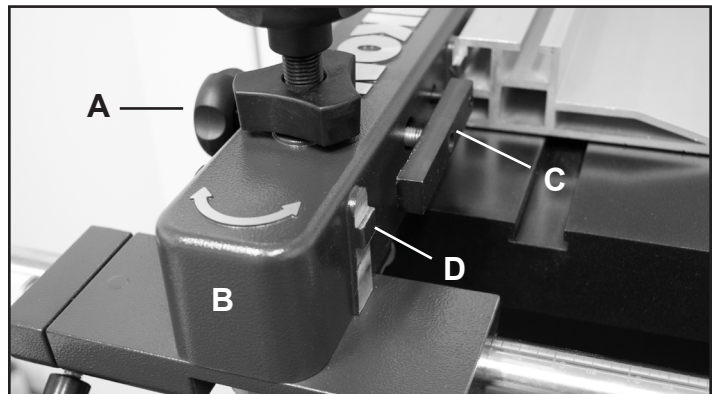

FIGURE 35
1. Loosen the side Handle (#1F, Fig. 35, A) which holds the rip fence against the Fence Carrier (#6F, B).
2. Slide the fence forward to remove it from the carrier's Sliding Block (#8F, Fig. 35, C).